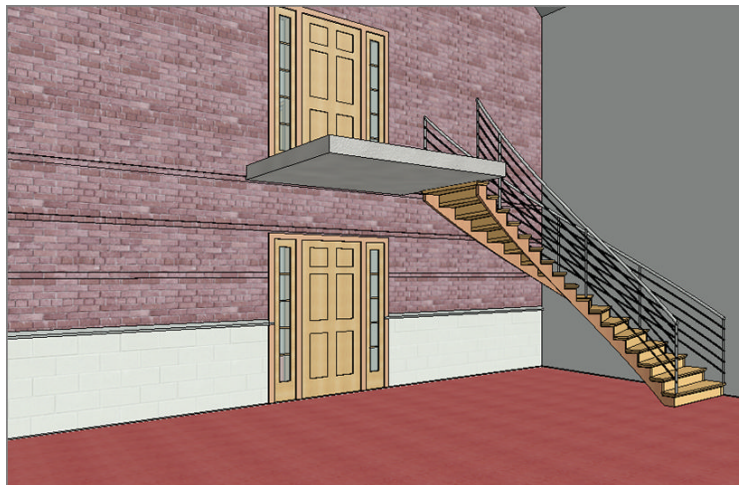

FIGURE 10.46: Looking nice
7. Check out the view (see Figure 10.46)!